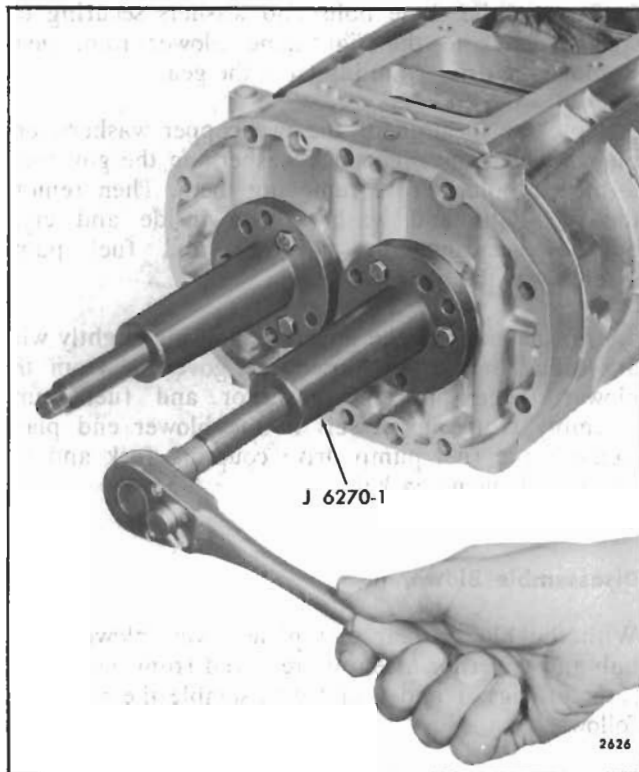

Fig. 5 - Removing Blower End Plate and Bearings from Housing and Rotors
- d. Turn the two puller screws uniformly clockwise and withdraw the end plate and bearings from the blower housing and rotors as shown in Fig. 5.